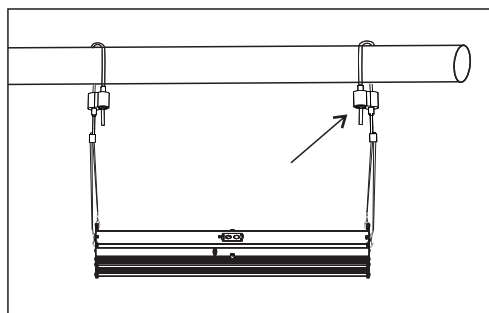

Figure 3
3. Adjust the suspension rope to keep the lamp even and balanced. (Figure 3)